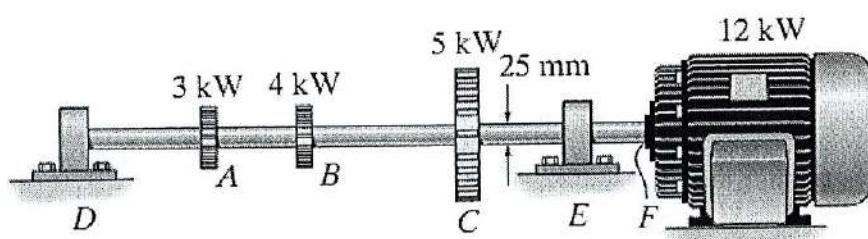

Figure Q2(b) / Rajah S2(b)
- b) The solid steel shaft DF as shown in **Figure Q2(b)** has a diameter of 25 mm and is supported by smooth bearings at D and E. It is coupled to a motor at F, which delivers 12 kW of power to the shaft while it is turning at 50 revolutions per second. If gears A, B, and C remove 3 kW, 4 kW, and 5 kW respectively, determine the maximum shear stress developed in the shaft. The shaft is free to turn in its support bearings D and E.